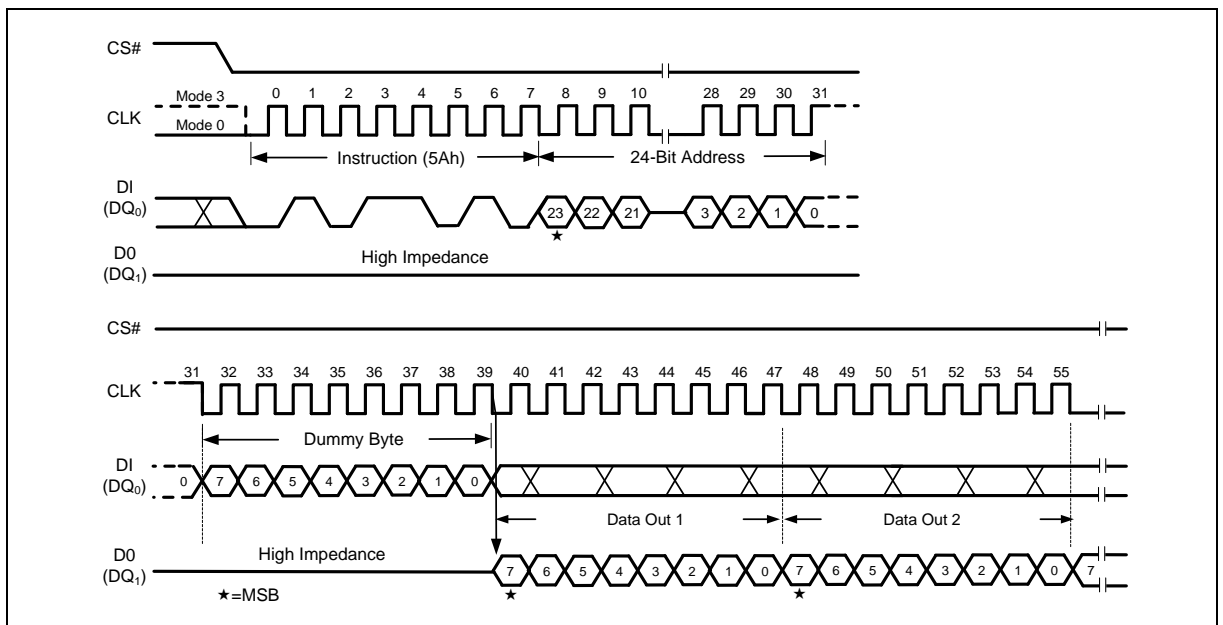

Figure 64 Read SFDP Register Command
The Read SFDP command is initiated by driving the /CS pin low and shifting the command code “5Ah” followed by a 24-bit address (A23-A0)(1) into the DI pin. Eight “dummy” clocks are also required before the SFDP register contents are shifted out on the falling edge of the 40th CLK with most significant bit (MSB) first as shown in Figure 64. For SFDP register values and descriptions, refer to the following SFDP Definition table.